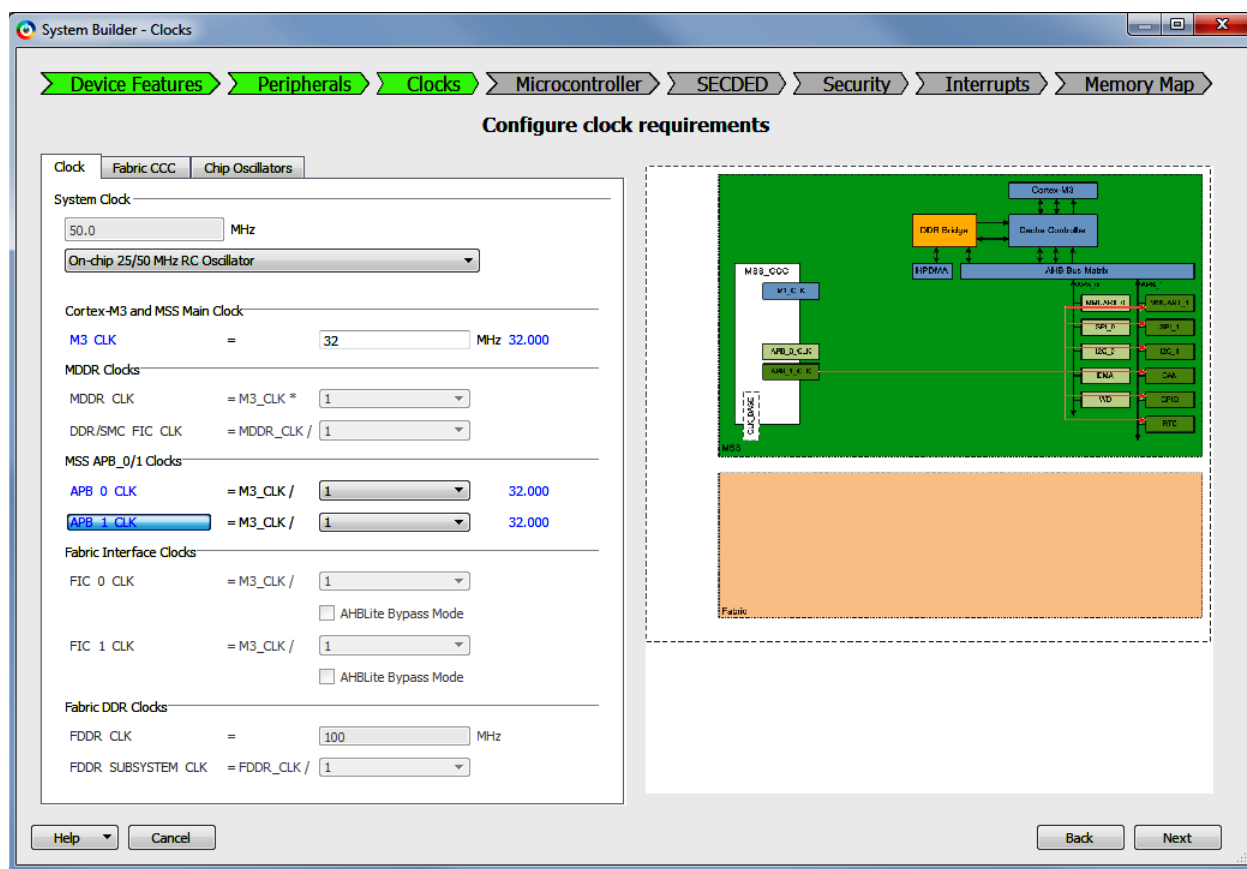

Figure 11 • System Builder - Clocks Window
14. Click **Next**. The **System Builder - Clock Settings** window is displayed as shown in Figure 11 on page 12.